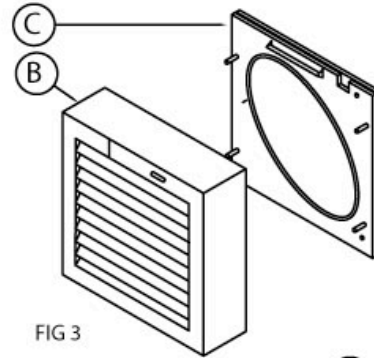

FIG 3
- 4.3 Separate the fan body (B) from the inner clamp plate (C). (FIG 3)
- 5.3 Separate the fan body (B) from the inner clamp plate (C). (FIG 3)